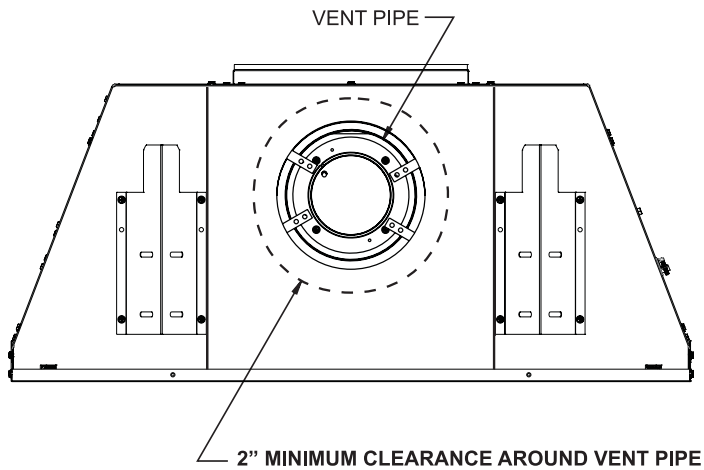

Figure 16
**NOTE:** Maintain two inches of clearance around vertical vent pipe on first twelve inches. See Figure 16.